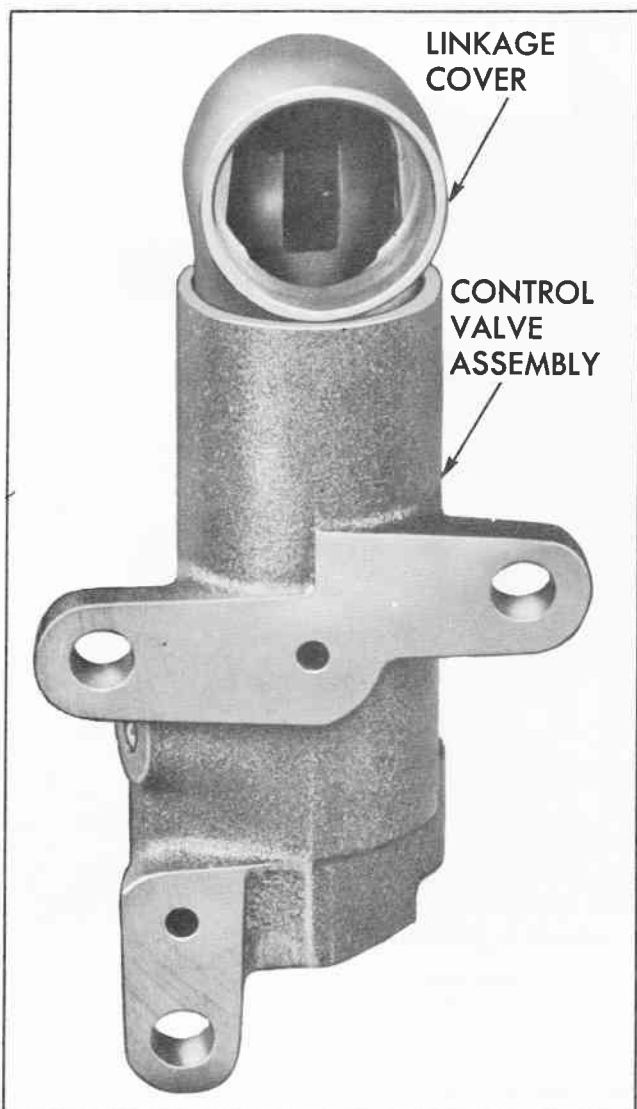

Fig. 85 Control Valve and Linkage Cover
- valve. Position valve link so that slot is perpendicular with bottom of valve (Fig. 85).